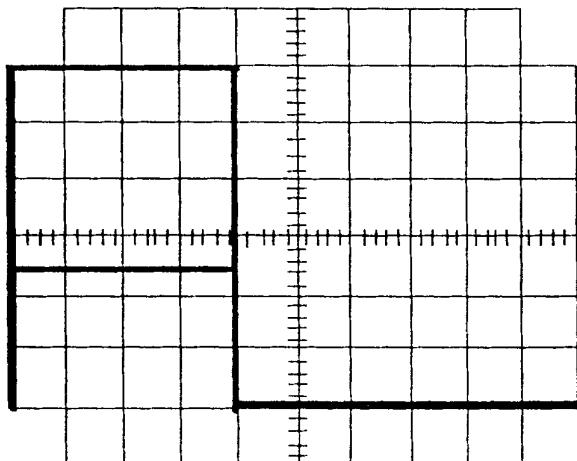
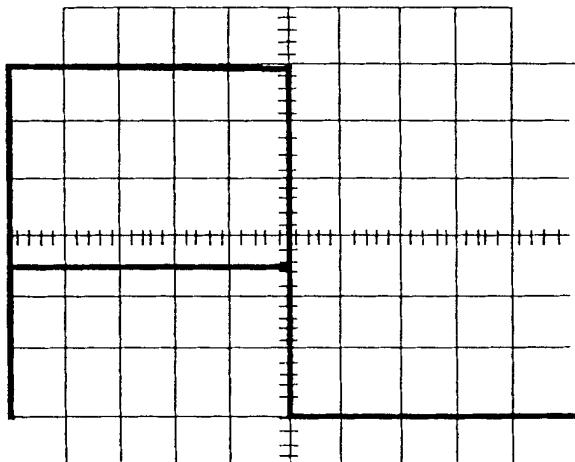

Fig. 13
Fig. 16
- For 30 kV value to Fig. 13 and Fig. 16